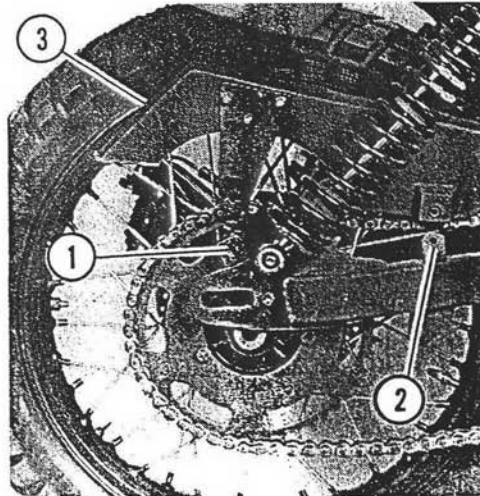

Figure 5-43. Chain Guard
5. See Figure 5-43. Using a 13 mm wrench and a 10 mm wrench, remove screw (1) and flat washer, screw (2) and flat washer, and then swing chain guard (3) up and away from sprocket.
4. See Figure 5-43. Swing chain guard (3) back into position and install small screw (2) and flat washer, and large screw (1) and flat washer.